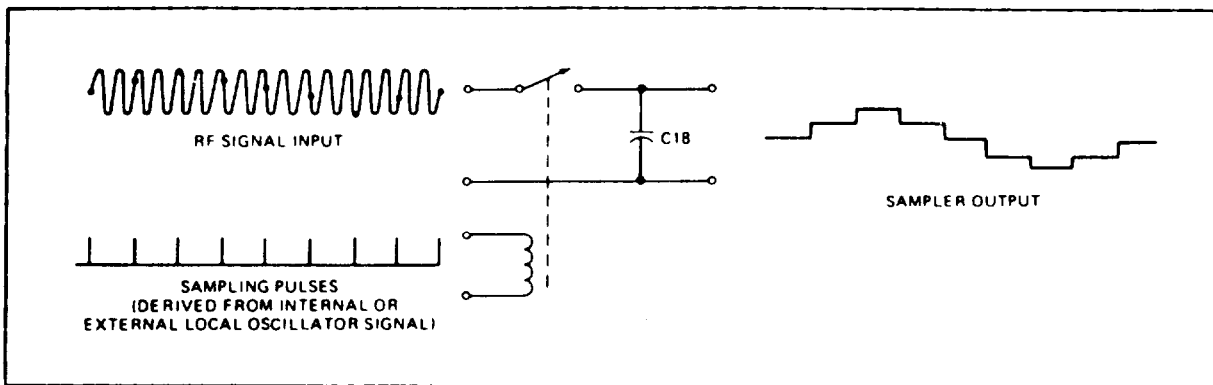

Figure 3-3. Sampling Gate: Simplified Operation
- (2) The operation of the sampling gate is shown in simplified form in Figure 3-3. Each time the sampling gate is closed, by a short-duration pulse, the input capacitance of the sampler amplifier plus any stray capacitance is charged to a voltage that is less than the instantaneous r.f. input voltage. Before the next sample is taken, positive feedback from the sampler amplifier causes additional charge to be placed on this capacitance. Charge is added until the output voltage of the sampler amplifier is equal to the r. f. input at the time the sample was taken. This output voltage is held constant until the next sample is taken. Successive samples are taken until the r.f. waveform is reconstructed at 400 kHz. Additional feedback from the sampler amplifier maintains symmetrical reverse bias on the sampling gate. R10 adjusts the bias magnitude, and R14 adjusts the bridge balance.